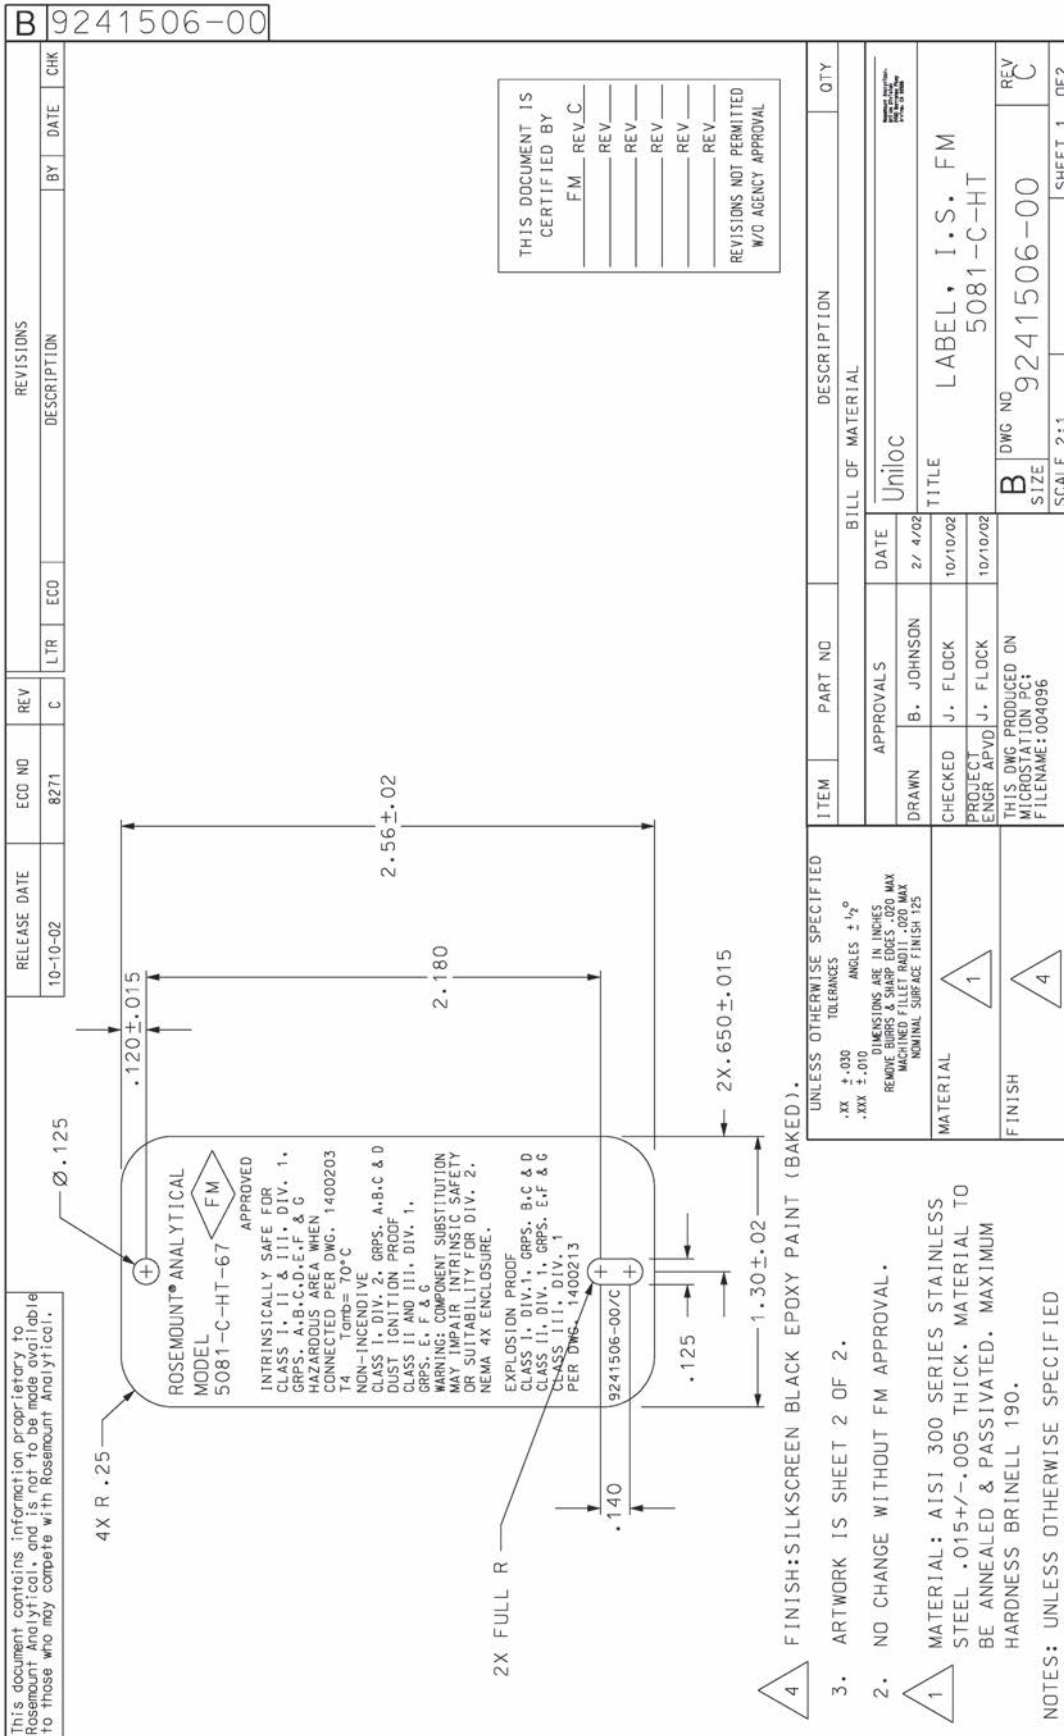

FIGURE 4-4. FM Intrinsic Safe Label for Model 5081-C-HT
- For FM intrinsically Safe Label, see Figure 4-4.